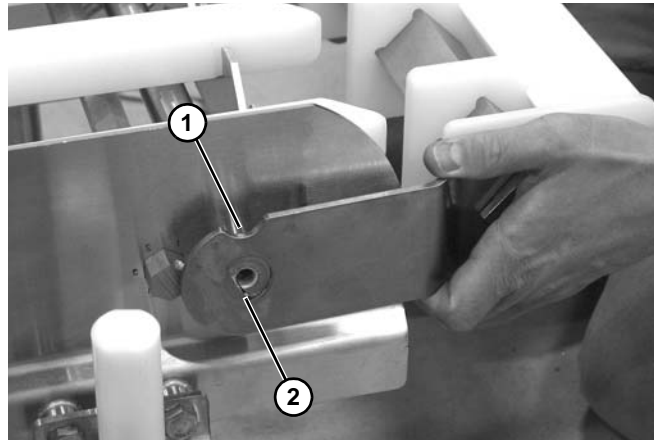

Figure 97
Make note of curved notch (**Figure 97, item 1**) and notched end (**Figure 97, item 2**) on each end of tail plate before removing assembly.